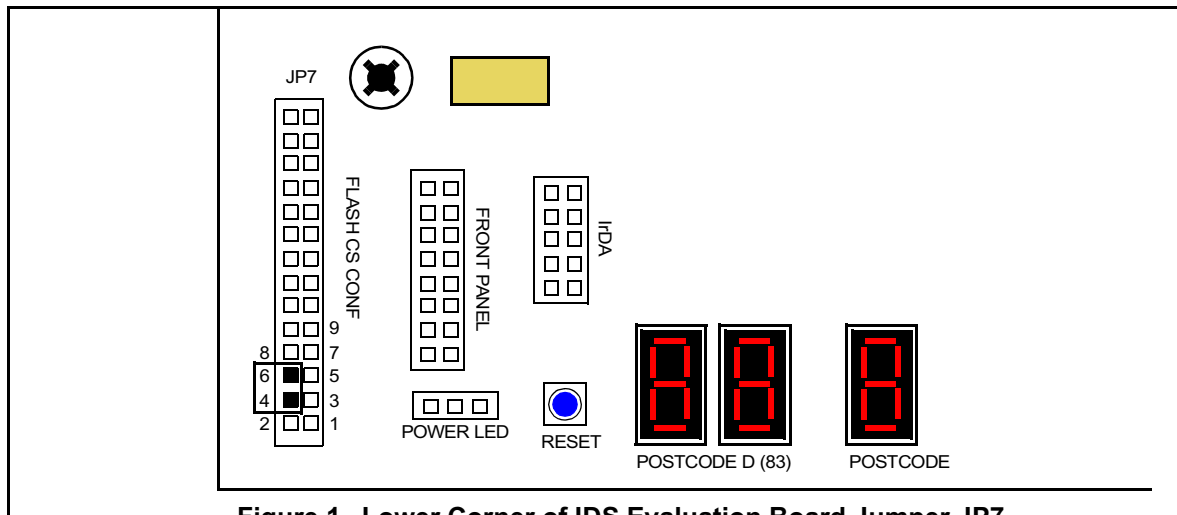

Figure 1. Lower Corner of IDS Evaluation Board Jumper JP7
2. Set the jumpers so that the ZFx86 boots from the AMDFLASH (the board may be set already – newer systems arrive as such). Jumper pins 4 and 6 of the FLASH CS CONF jumper JP7, and set BOOTSTRAPS switch S3 #12 to OFF. See Figure 1.
Note that if you boot DOS from the GS/ATMEL, you need to change the FLASH CS CONF jumper JP7 from pins 3 and 5 to pins 4 and 6 (see Figure 1), and place S3 switch #12 to the right before executing the AMDFLASH utility.